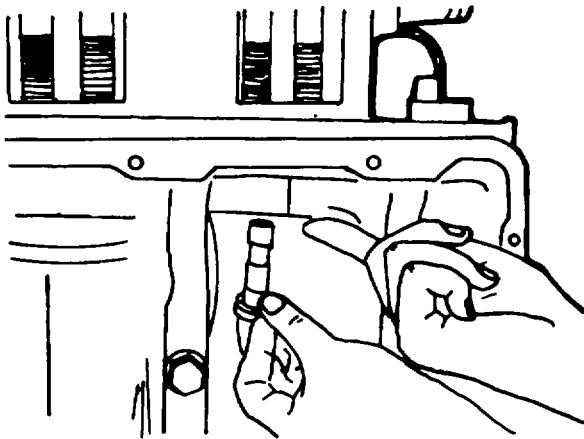

Figure 5-80. Installing Tappets
1. Slightly oil the tappets, install and retain them in position (figure 5-80).